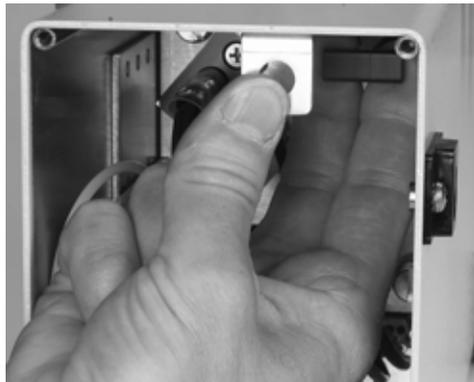

Fig 13-8 : Pulling the UV Lamp Connector Plug
- 7) Pull the UV lamp straight out of the housing and remove it from the cell assembly, as shown in Figure 13-8.